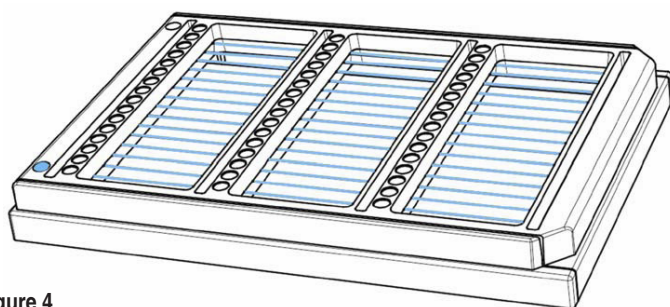

Figure 4
4. The filling of the capillary can be easily monitored with a microscope. Release the vacuum when the capillary is fully loaded (Figure 4). Excess protein can be removed from the lower protein loading well.